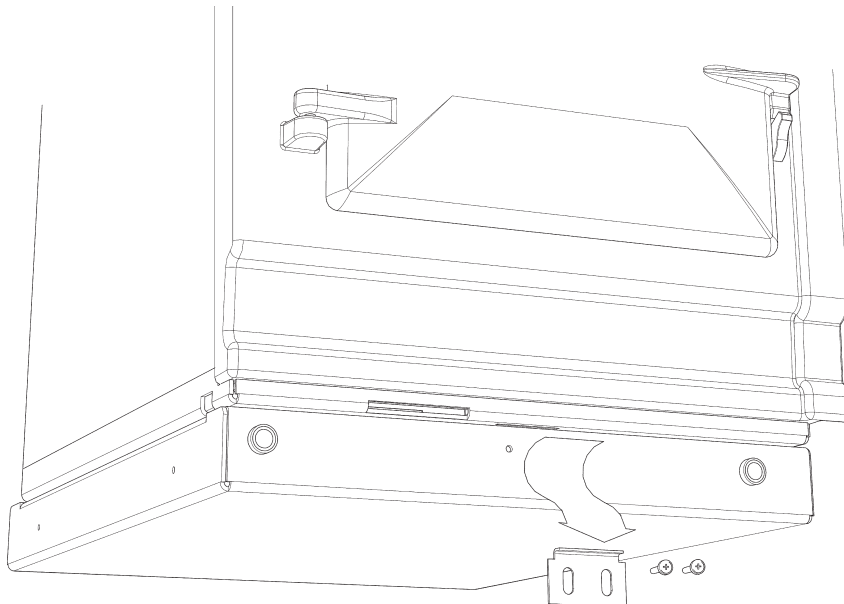
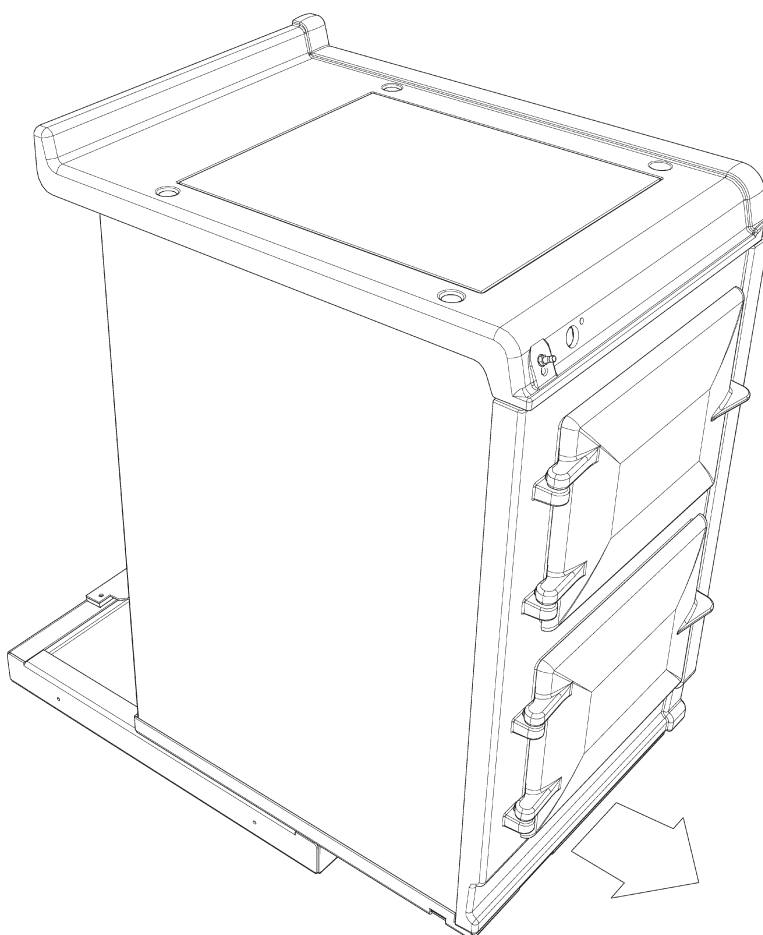

Fig. 11
Fig. 12
1. Detach hotcupboard from plinth by removing two screws and tongue bracket from plinth (See Fig. 11), slide hotcupboard forwards and away from rear fixing bracket (See Fig. 12).